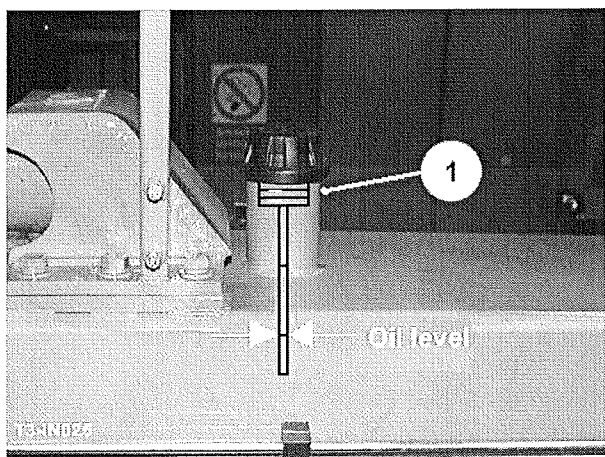

Fig 34
The hydraulic oil should be carefully monitored. The cold oil level should be kept to the lower mark on the dipstick (item 1, fig 34) with the dipstick screwed fully in. On earlier machines, the level should be approximately 100mm below the bottom of the chassis filler neck and covering the sight glass (item 1, fig 35). Maintain the filler level by topping up or refilling with Esso Nuto 46 Hydraulic Oil. The reservoir holds approximately 750 litres. If a high water content becomes apparent or a cloudiness in the oil, the hydraulic oil should be changed.